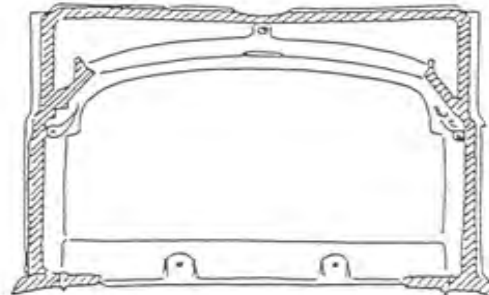

Fig. C-4 Front
STEP 10: Cement all mating surfaces on the stove front as indicated in Figure C-4. Place the front air manifold in position on the inside of the stove front and secure with 1 each, hex head cap screw ($\frac{1}{4}$ -20 x 2").